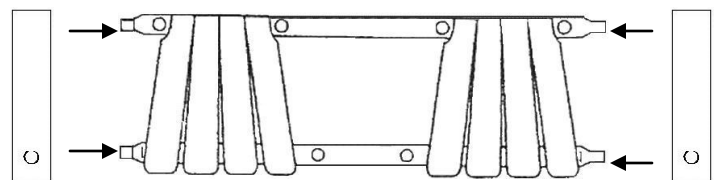

Figure 1
STEP 1 Install seat ends onto seat. Align holes in seat end with dowels on seat. Repeat on other side. Secure with screws perpendicular to dowel. **IMPORTANT:** The single hole should be placed toward the front of the seat. (See right). Figure 1. Secure with screws.